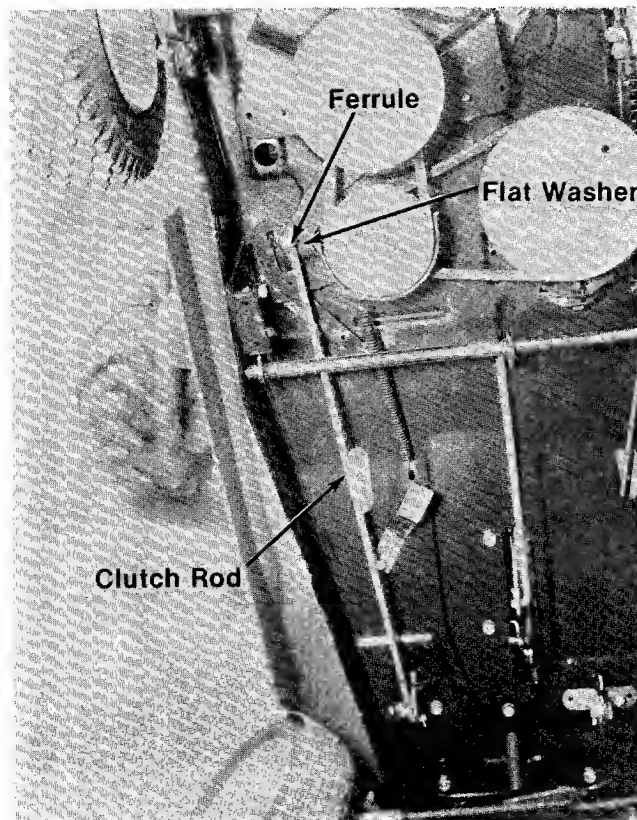

FIGURE 18. Bottom View
3. If there is not, remove the ferrule and readjust. See figure 18.